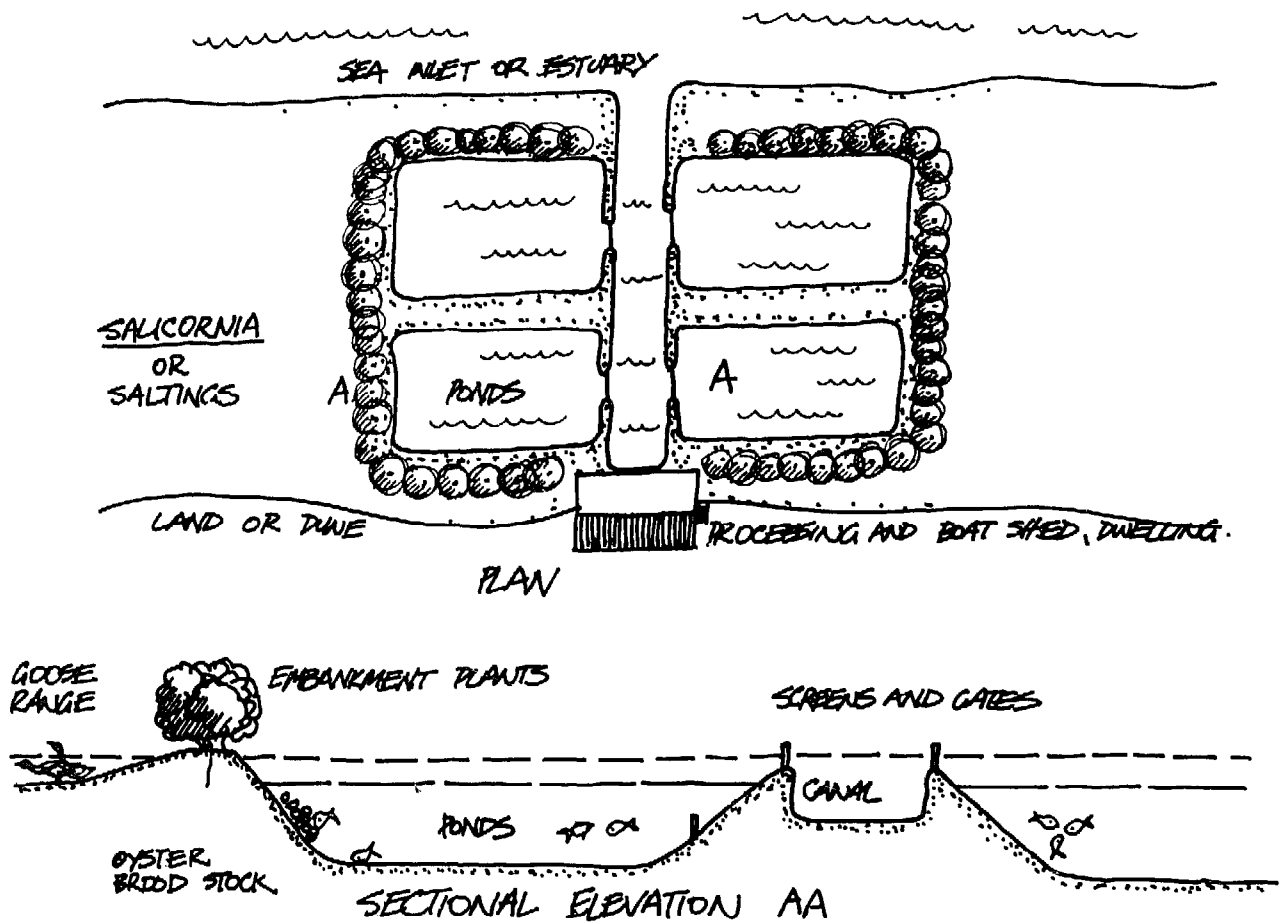

FIG. 7-24: PLAN AND SECTION OF TIDAL POOLS.
The intergrade estuary or inlet to land is often over *Salicornia* flats, weakly inundated by tides twice daily. Swan, where present, graze these systems at high tide, and domestic geese also appreciate the forage of succulents and saltgrasses. As few, if any, fish occupy these salt flats, mosquitoes find multitudinous breeding grounds there, and it is more productive to vary the system by pond and bank designs, as per Fig. 7.24, than to try to manage the unmodified system.
- fry traps that provide stock for inshore and *Salicornia* pools (Fig. 7.24);